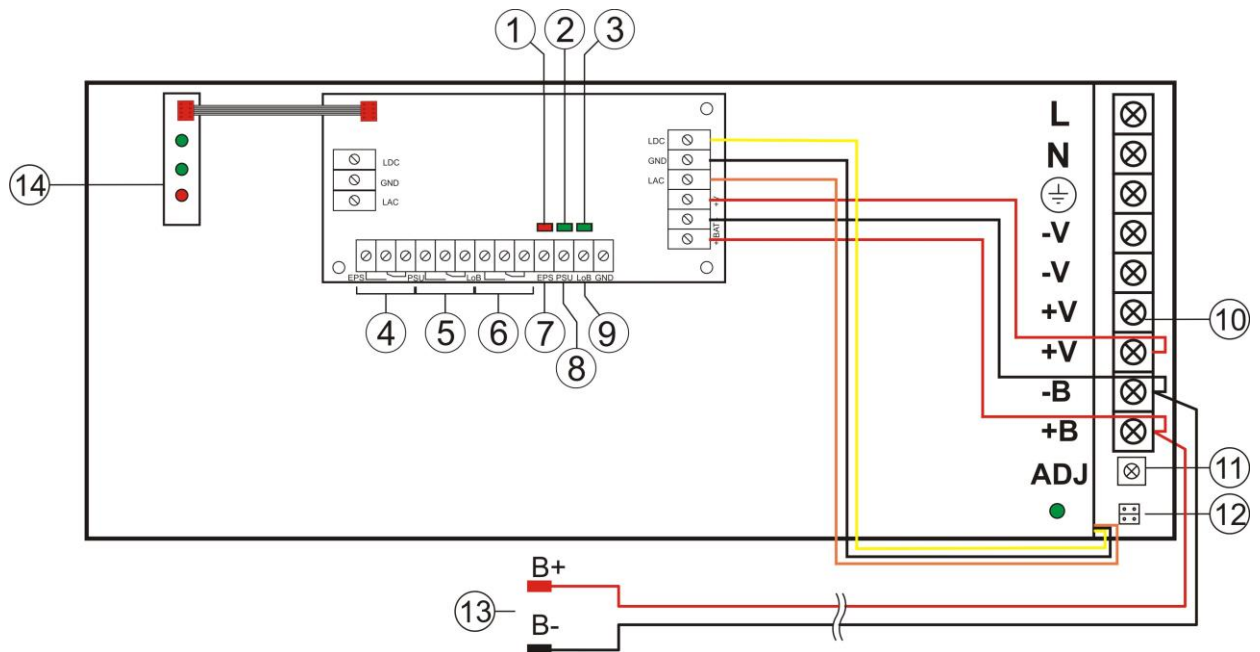

Fig. 2. The view of the PSU.
Table 1. Elements of the module's (see fig. 2).
Fixation	See figure 2
- red LED (Fig.2, element 1) normal status (AC power): permanently illuminated. AC power absence is indicated by the AC diode going out.
- green LED (Fig.2, element 2) indicates DC power at the PSU output. Under normal status the diode is permanently illuminated. In case of a short circuit or an overload, the diode is off.
- green LED (Fig.2, element 3) indicates battery voltage level. Under normal status ( $U_{BAT} > 23V$ ) the diode is permanently illuminated. In case of decrease of battery voltage ( $U_{BAT} < 23V$ ) the diode is off.